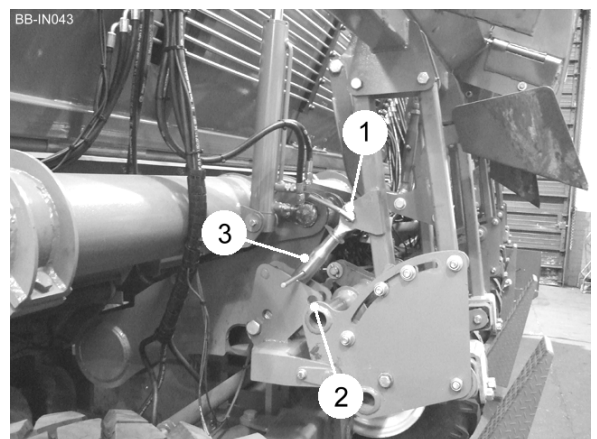

Fig 2
8. Remove the mouldboard transport pins (item 1, fig 2) and refit them into the hole (item 2, fig 2) to support the adjustable link (item 3, fig 2).
3. Raise the mould boards and secure them in the transport position with the pins (item 1, fig 2).